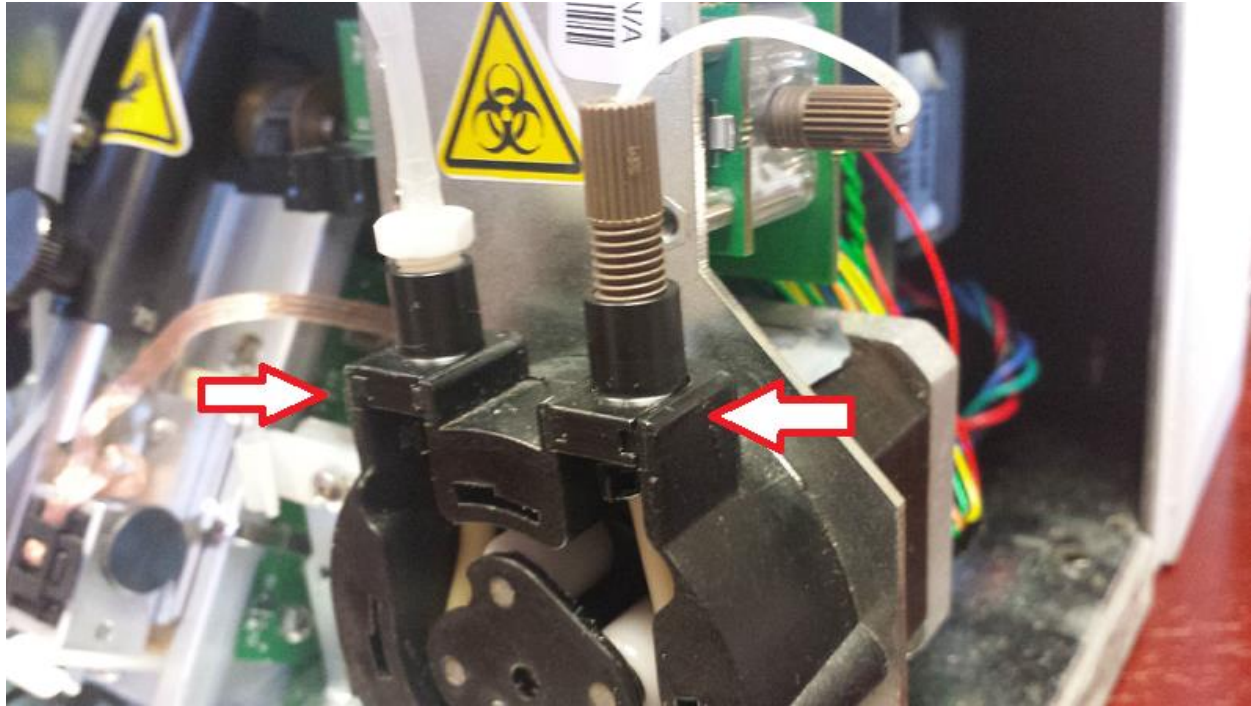

Figure 15
12. Starting on the left side of the primary pump, insert the grooves of the new tubing into the slot on the pump. Slowly work the tubing in the pump. Once the tubing is in place, insert the grooves of the new tubing into the slot on the right side of the pump. See Figure 15 for correct placement.